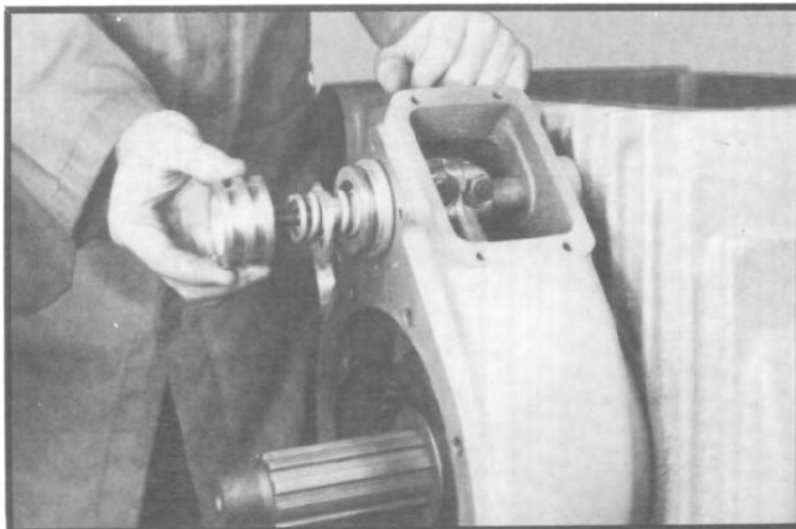

Fig. 166
9. Place piston over threads of shift shaft (depressing spring) with shallower of two grooves facing towards shaft. (See fig. 166 and 167.)